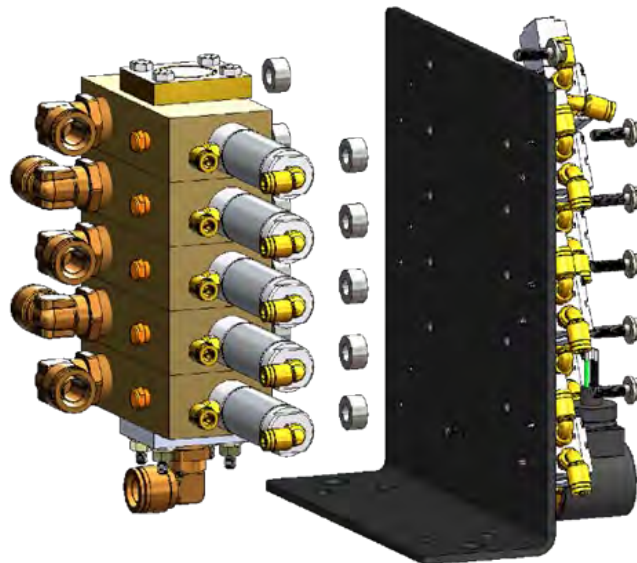

Figure 99. PF Valve Block Removal From Bracket
- D. Otherwise, simultaneously using 7-16-in wrench and needle nose pliers, remove all PF valve mounting screws and spacers. See Figure 99.
- K. Using needle nose pliers, install all PF valve mounting spacers and hand start mounting screws. See Figure 99.